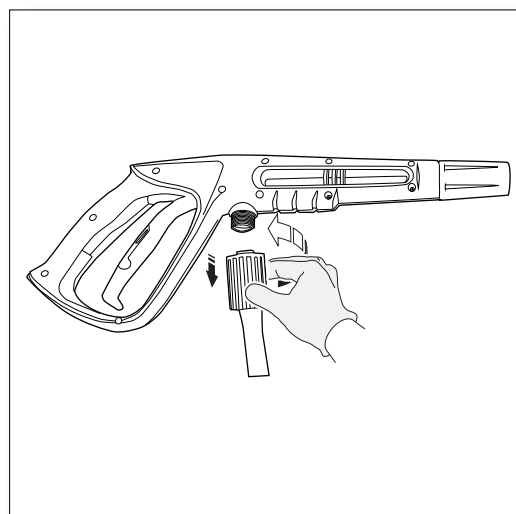

Fig. 7
- To release the hose from the spray gun, turn black collar counterclockwise and remove from gun. **(Fig. 7)**.